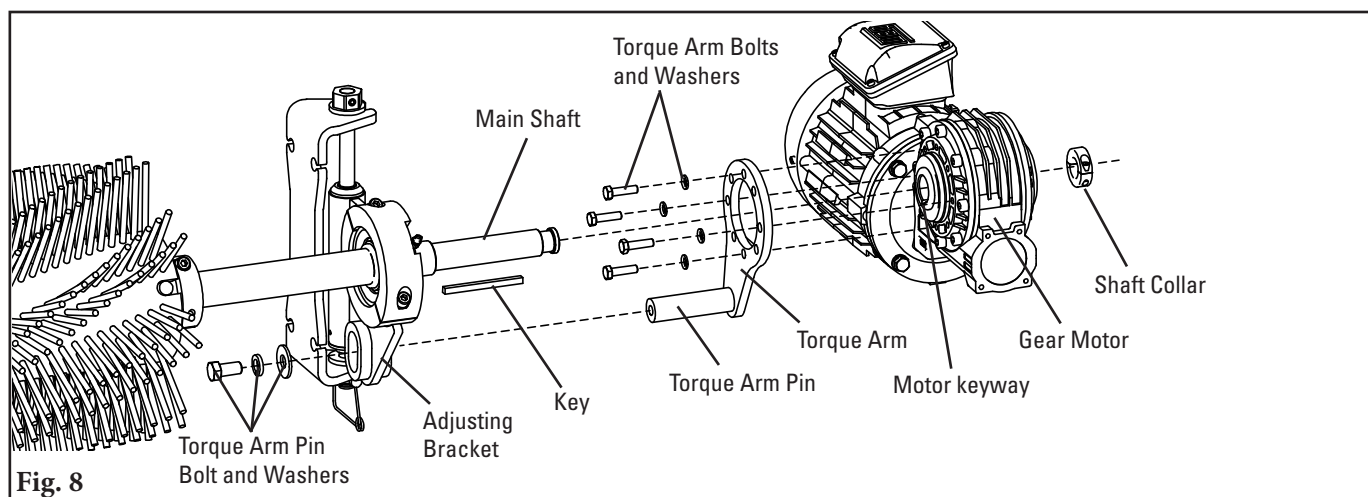

Fig. 8
8. **Install motor.** Orient the torque arm on the motor in order to achieve selected motor orientation and attach with torque arm bolts and washers. Install key into drive end of shaft, then slide motor onto shaft (Fig. 8). Align keyway on motor with key on shaft and slide motor until pin on torque arm is fully through slot on adjustment bracket. Secure motor by installing torque arm pin bolt and washers into end of torque arm pin. Then install shaft collar onto the end of the main shaft.